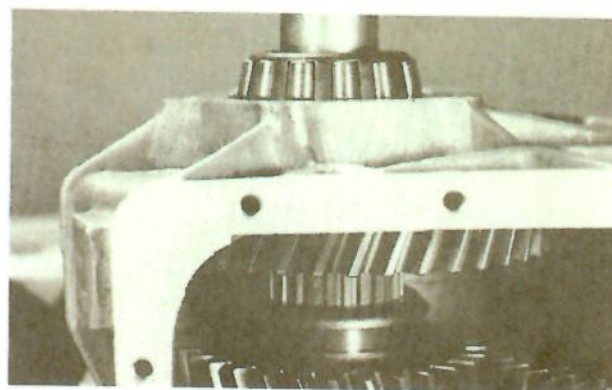

FIG. 18 - INSTALLING THE CONE OF REAR TAPERED ROLLER BEARING ON THE OVERDRIVE INPUT SHAFT.
32. Insert the output end of the overdrive input shaft into the transfer case through the front opening. Install the high/low clutch hub and the low speed gear on the output end of the shaft and slide the shaft through the case. Lay the transfer case face down, supported on two blocks of wood so that the input end of the shaft is resting squarely against the bench top. Install the thrust plate and the rear tapered roller bearing on the shaft. Solidly seat the cone of the bearing and the thrust plate on the shaft, using an appropriate size piece of tubing and a hammer, (Fig. 18).